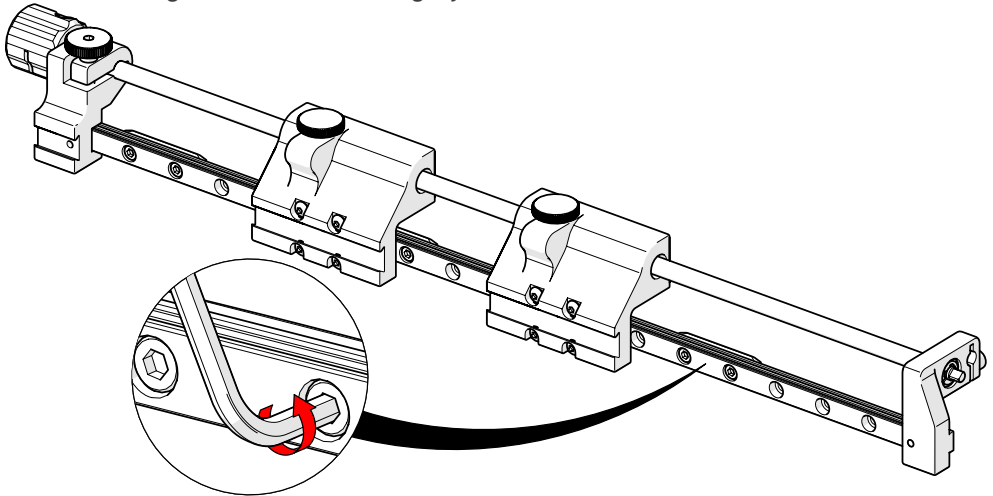

Fig. 56 - Slightly loosen all dovetail nuts
1. To install the PPS to a frame bar, ensure all the dovetail nuts are loose (Fig. 56) using a 2.5 mm hex wrench (Fig. 27).